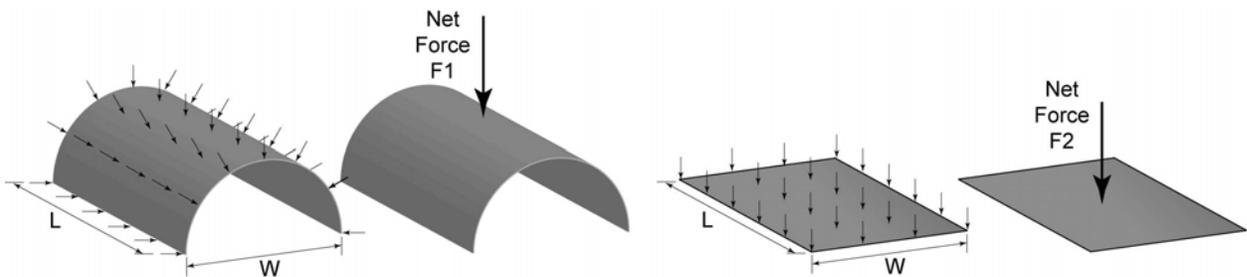

Figure 3: Net Force F1 Acting on a Half of a Cylinder Equals the Net Force F2 Acting on a Rectangle with the Same Length and Width
- Pressure force acting on a cylinder: Similarly, if you sum all of the pressure forces pushing against a half a cylinder, the net force is equal in magnitude and direction to the net force pressing on a rectangular area with the same length and width. See Figure 3.